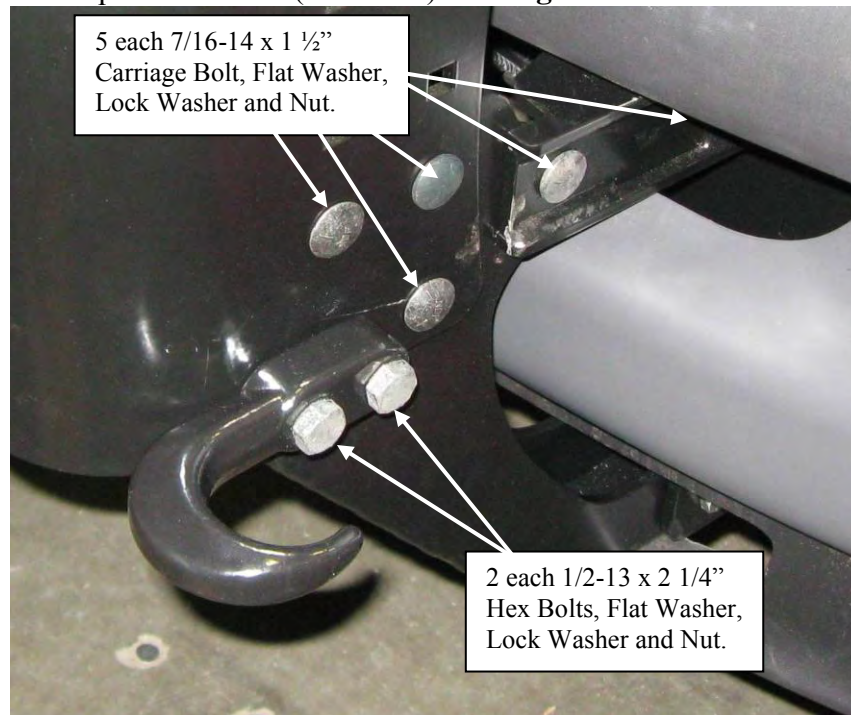

Figure 11: Large Frame Carrier: Carriage and Tow Hook Bolt Positions.
12. Tighten the 4 carriage bolts that connect the bottom bracket to the frame extension bracket that protrudes through the bumper and torque to 50 lb. ft. (67.8 N-m). See **Figure 11**.
13. Tighten the tow hook bolts on the outside of the winch carrier and torque to 75 lb. ft. (101.7 N-m). See **Figure 11**.
14. Tighten the carriage bolts (Hex Head Bolts for SS kits) behind and above the tow hook and torque to 50 lb. ft. (67.8 N-m). See **Figure 11**.